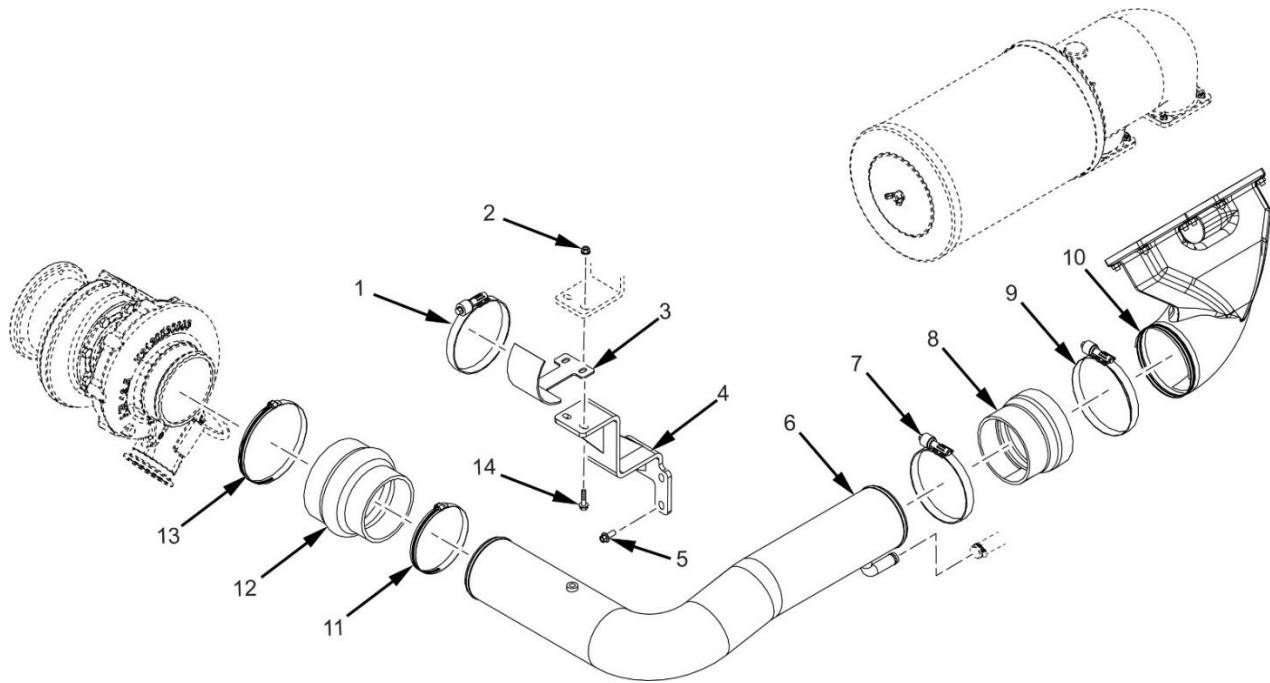

Figure 23. Air Filter Element
7. Remove hose from oil breather to turbocharger inlet tube (Figure 23, Item 6).
8. Remove clamp (Figure 23, Item 1) from bracket (Figure 23, Item 3) and turbocharger inlet tube (Figure 23, Item 6).
9. Remove clamps (Figure 23, Item 7 and 9) and air connecting rubber pipe (Figure 23, Item 8) from mixer intake pipe (Figure 23, Item 10) and turbocharger inlet tube (Figure 23, Item 6).
10. Remove clamps (Figure 23, Item 11 and 13) and air connecting rubber pipe (Figure 23, Item 12) from turbocharger inlet tube (Figure 23, Item 6) and turbocharger.
11. Remove bolts (Figure 23, Item 2) and nuts (Figure 23, Item 14) from bracket (Figure 23, Item 3) and bracket (Figure 23, Item 4).
12. Remove bolts (Figure 23, Item 5) and remove bracket (Figure 23, Item 4).
13. Install bracket (Figure 23, Item 4) with bolts (Figure 23, Item 5).
14. Install bracket (Figure 23, Item 3) and bracket (Figure 23, Item 4) with bolts (Figure 23, Item 2) and nuts (Figure 23, Item 14).
15. Install air connecting rubber pipe (Figure 23, Item 12) to turbocharger inlet tube (Figure 23, Item 6) and turbocharger with clamps (Figure 23, Item 11 and 13). Tighten clamps securely.
16. Install air connecting rubber pipe (Figure 23, Item 8) to mixer intake pipe (Figure 23, Item 10) and turbocharger inlet tube (Figure 23, Item 6) and secure with clamps (Figure 23, Item 7 and 9). Tighten clamps securely.
17. Install bracket (Figure 23, Item 3) to turbocharger inlet tube (Figure 23, Item 6) and secure with clamp (Figure 23, Item 1).
18. Install hose from oil breather to turbocharger inlet tube (Figure 23, Item 6).
3. Install bolts (Figure 23, Item 3) and nuts (Figure 23, Item 4) securing plate (Figure 23, Item 5) to engine block.